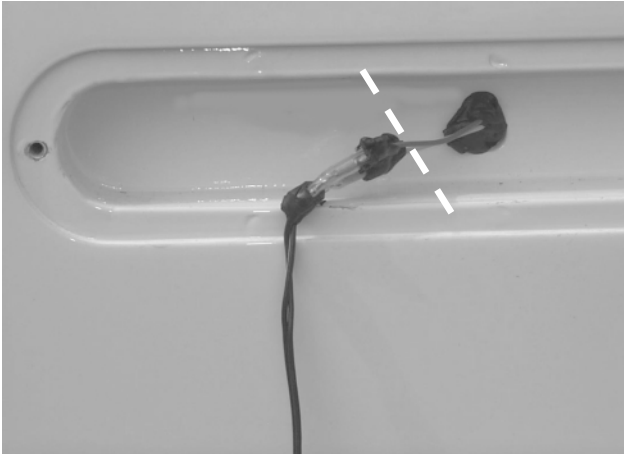

Figure 7: Cut the coach/transit bus wiring at the terminals
- 4) Cut the coach wiring at the terminals (see Figure 7).